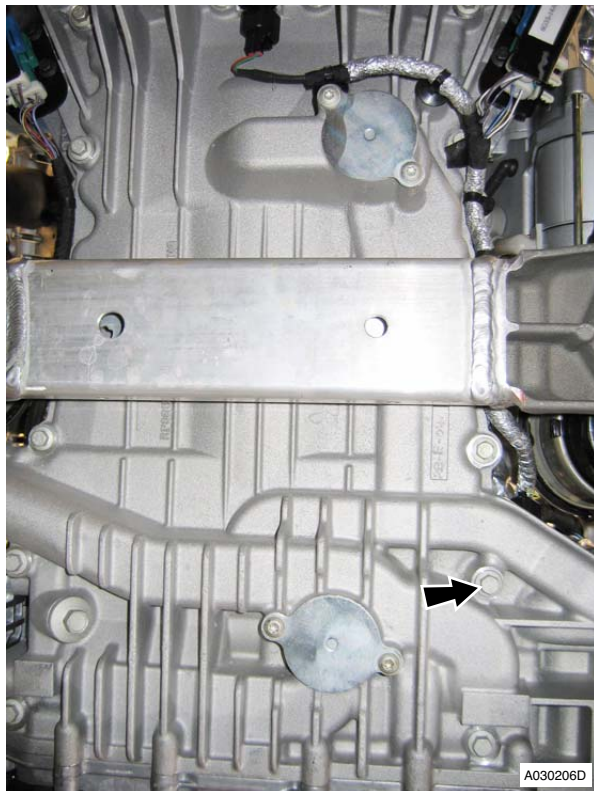

Figure 8
12. Remove bolts (x16) that attach the sump to engine bedplate (refer to Figure 8).